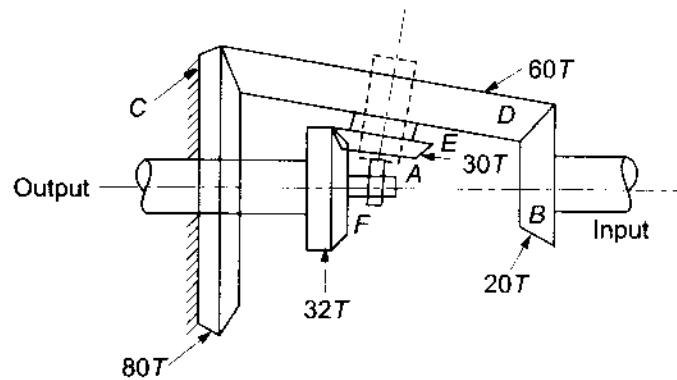

Fig.12.33 Epicyclic gear train
- 12** In the epicyclic gear train shown in Fig.12.33, the compound wheels E and F rotate freely on shaft A which carries the planet carrier G . The planets B and C are compounded gears. The number of teeth on each gear are: $z_E = 30$, $z_H = 15$, $z_B = 20$, $z_C = 18$, $z_D = 68$.